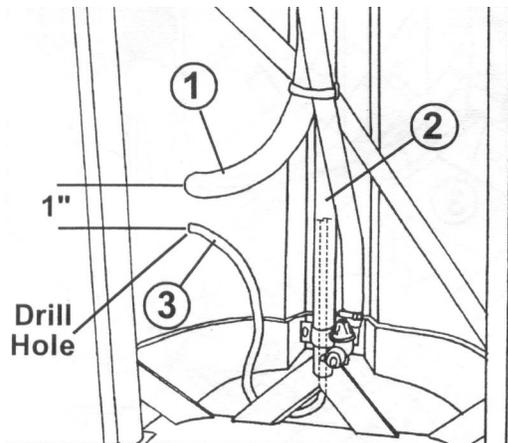

FIG. 16
1. Drill a 3/8" hole in the plastic shroud 1" over from the Boom Extension Feed Hose on each Boom Extension. Fig. 16